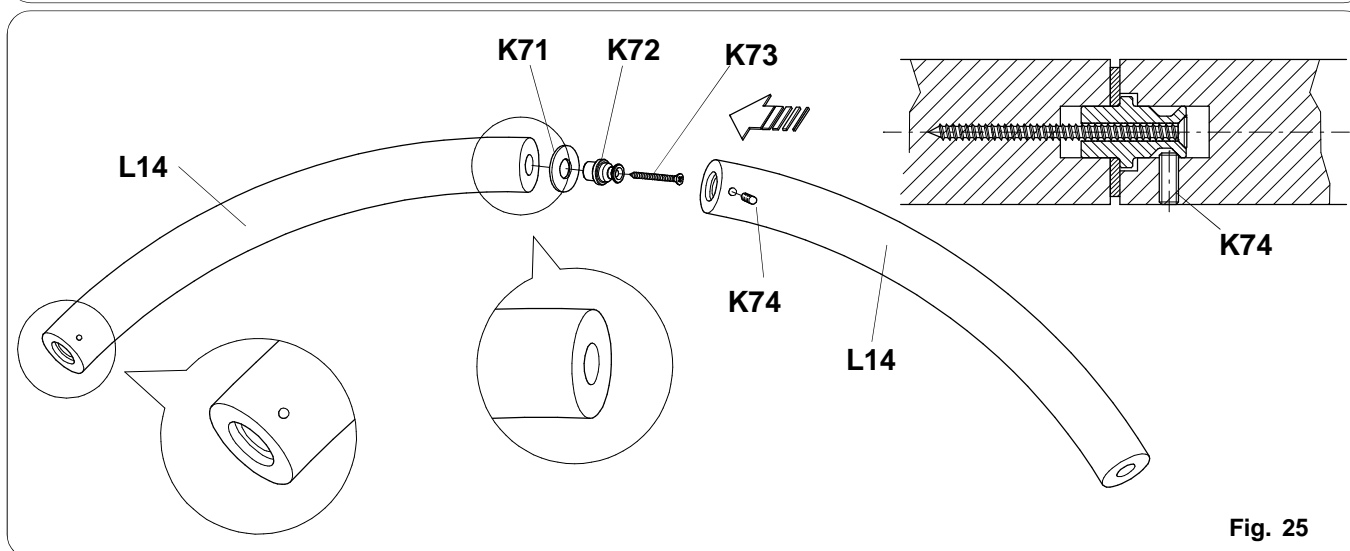

Fig. 25
- The **L14** sectors of the handrail are all the same. (fig. 25)